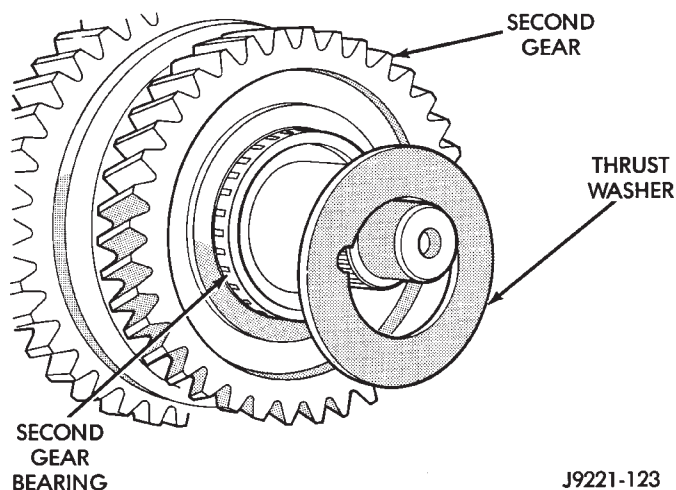

Fig. 62 Second Gear Thrust Washer Removal
(6) Remove second gear thrust washer (Fig. 62). Note that washer is notched for locating pin.